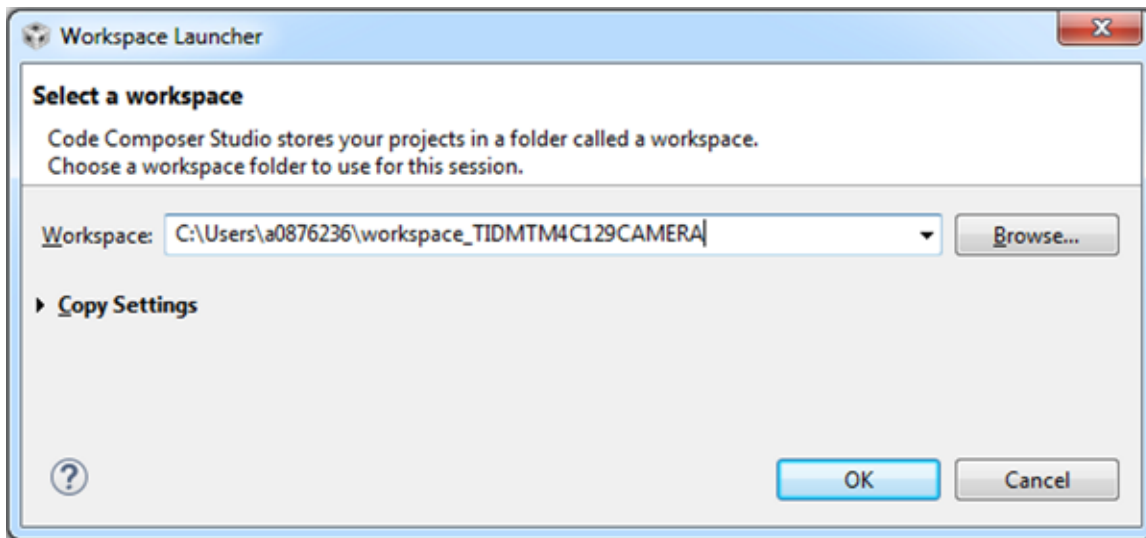

図 12. Create a New Workspace
3. In the pop-up box, provide the name of the new workspace. The created example workspace is called *workspace_TIDMTM4C129CAMERA* (see Figure 12). Click *OK*.